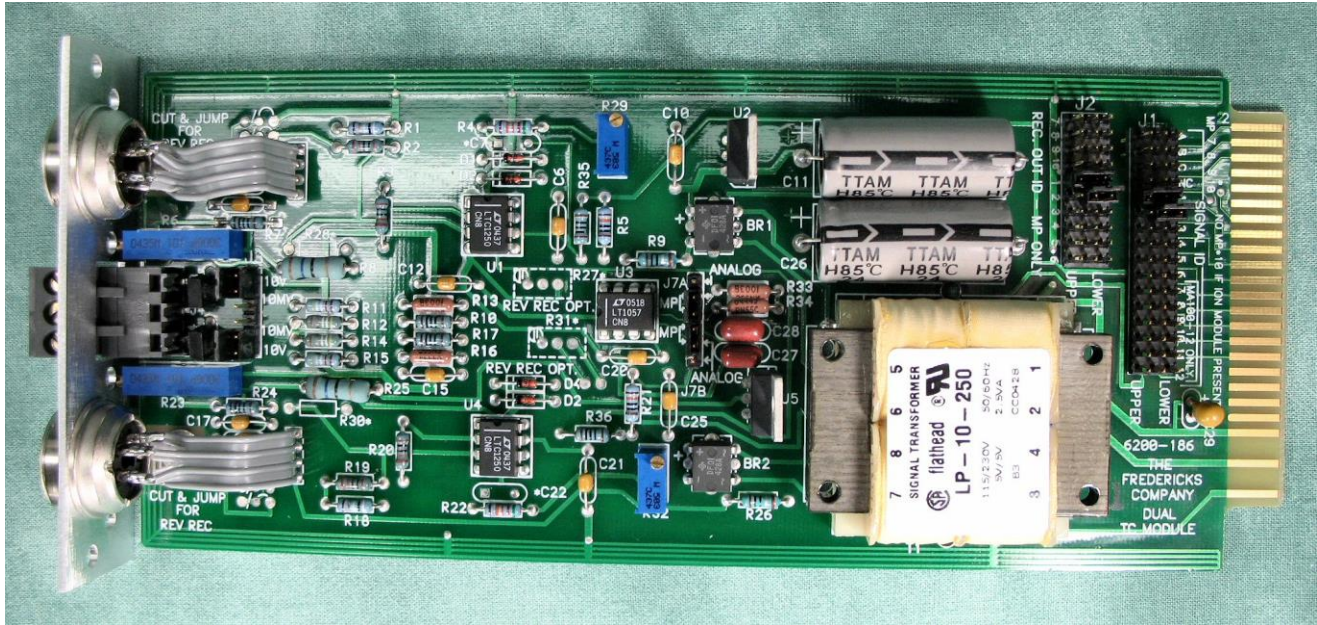

Fig. 9.3a - Thermocouple Module
**THERMOCOUPLE MODULE** - A thermocouple module is shown in Fig. 9.3a and 9.3b. This module is typical of all modules. The assignment of station identification numbers on a thermocouple module is accomplished by placing jumpers across the appropriate pins in the SIGNAL ID and the REC OUT ID sections. The upper thermocouple station has been named station #3 and the lower thermocouple station has been named station #4. Also two (2) jumpers are placed in the "MP" positions of the ANALOG/MP section of the board.